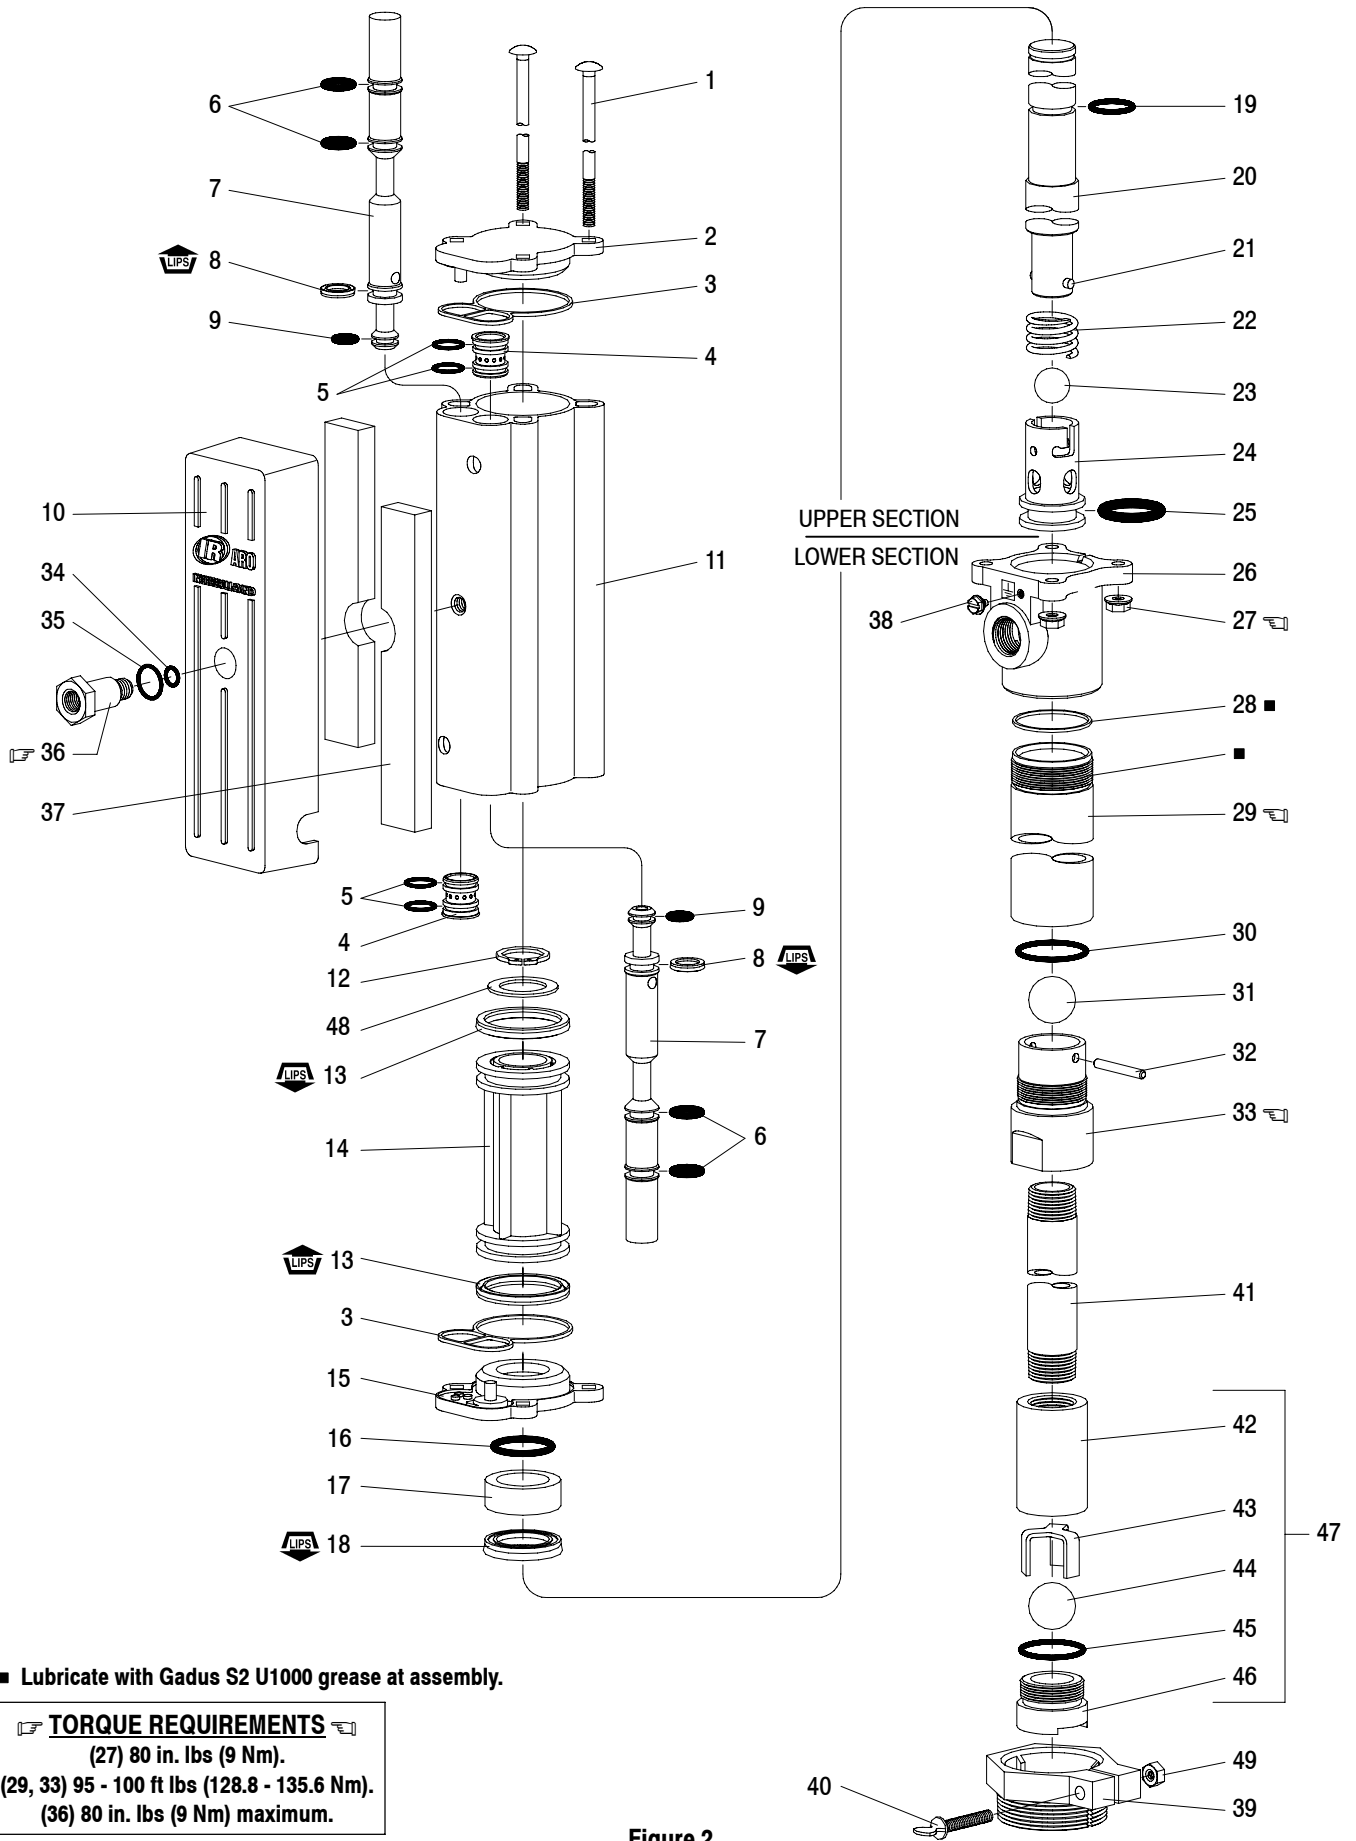

Figure 2
NOTICE: The unique design of this pump allows for quick basic pump service without total removal from the drum (refer to the views below). **DISASSEMBLY - All threads are right hand. Refer to figure 2. These procedures are for the installation of repair kit parts. Disconnect air supply and relieve all system pressure prior to servicing.** Carefully remove the parts, inspect parts for damage, nicks or excessive wear and determine if any parts will need replacement.
Note: Refer to the illustration (figure 2) for "U" cup lip seal direction.
1. Replace the seals on both the (7) spools and (4) sleeves.
2. Locate the valve chamber on the (11) cylinder where the 3/8" dia. hole is located and install one of the (4) sleeves. Insert the (7) spool from the opposite end. Next, install the remaining sleeve and spool.
3. Replace the (3) track gasket and install (2) cap.
4. Replace the (13) piston "U" cups (refer to figure 2 for proper orientation). Replace the (19) "O" ring and assemble (14) piston to (20) piston rod and retain with (48) washer and (12) retaining ring.
6. Replace the (3) track gasket and install the (15) cap. Install the (16) "O" ring onto the piston rod, replace (17) bushing and (18) packing.
7. Replace the (25) "O" ring and re-attach the (24) inner check.
8. Slide the pump assembly back into the (26) base / lower pump section. Press the sections together and align the air inlet and pump outlet as required and replace the four (1) bolts and (27) nuts (tighten to 80 in. lbs (9 Nm).